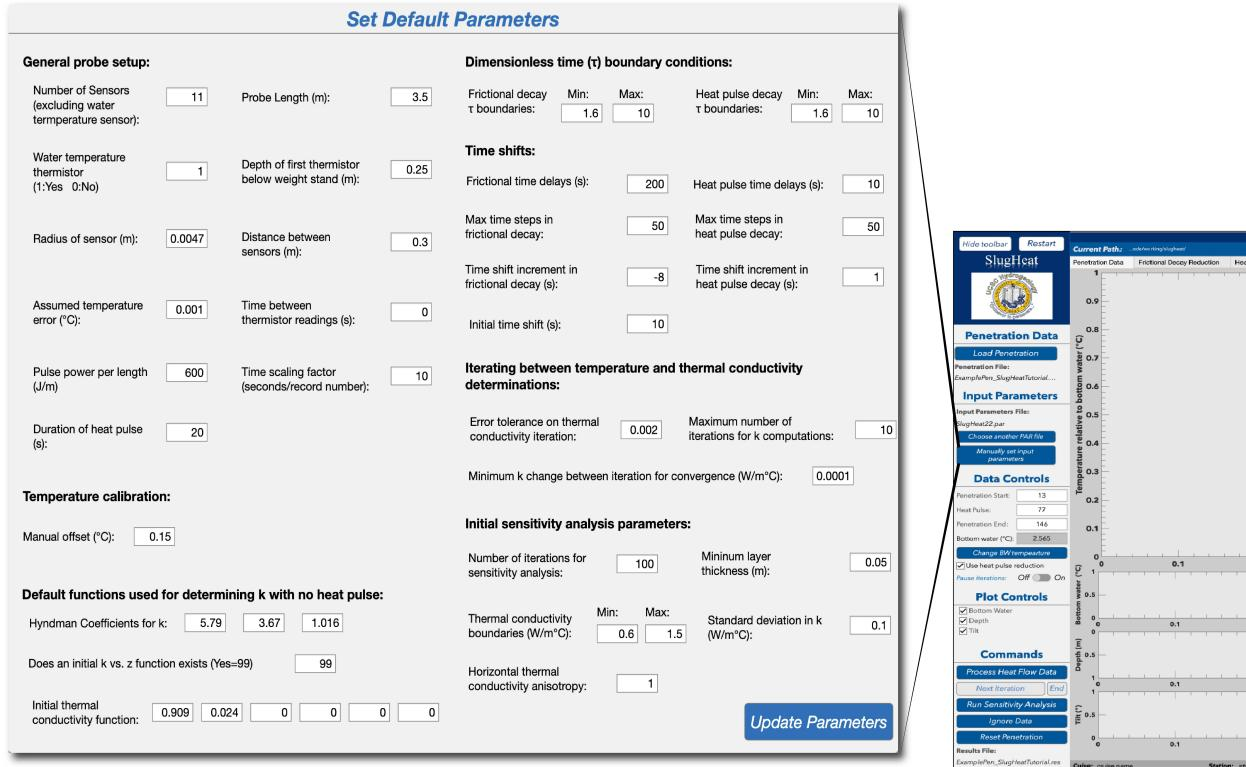

Figure 7: SlugHeat auxiliary application to inspect and modify input parameters
- To check *all* default input processing parameters and calibration parameters before processing data, either (1) check `SlugHeat.par` in a separate text editor or (2) press ‘*Manually set input parameters*’ button on the *SlugHeat* command window which will launch an auxiliary application within *SlugHeat* to view and adjust all input parameters. See Figure 7.
- (a) Press ‘*Manually set input parameters*’ button on top of command window to left of application, launching auxiliary application where individual input parameters can be adjusted manually. Press ‘*Update Parameters*’ button to update modified values. See Figure 7.